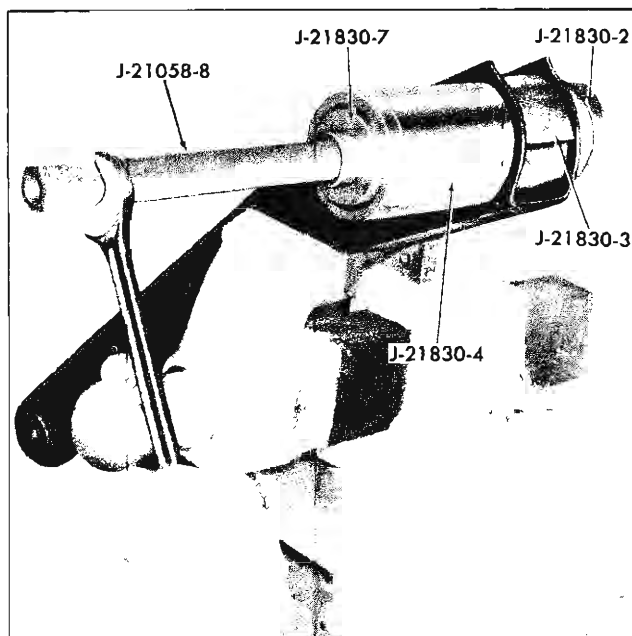

Fig. 25—Lower Control Arm Rear Bushing Removal
- c. Check tool installation for proper alignment and tighten J-21058-8 to withdraw bushing from control arm. Refer to Figure 25 for installed view of tools.